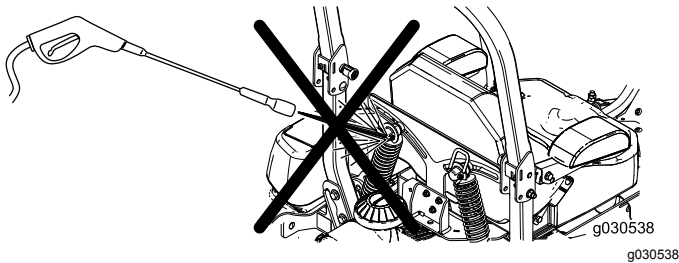

Figure 87
**Note:** Do not clean the shock assemblies with pressurized water (Figure 87).